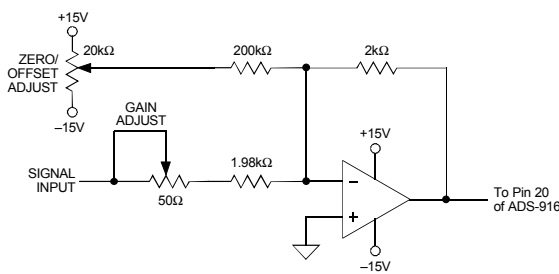

Figure 2. ADS-916 Calibration Circuit
Bypass all power supplies and the REFERENCE OUTPUT (pin 21) to ground with 4.7µF tantalum capacitors in parallel with 0.1µF ceramic capacitors. Locate the bypass capacitors as close to the unit as possible. If the user-installed offset and gain adjusting circuit shown in Figure 2 is used, also locate it as close to the ADS-916 as possible.
can be reduced to zero using the input circuit of Figure 2. When using this circuit, or any similar offset and gain-calibration hardware, make adjustments following warmup. To avoid interaction, always adjust offset before gain.
**CALIBRATION PROCEDURE (Refer to Figures 2 and 3)**
Any offset and/or gain calibration procedures should not be implemented until devices are fully warmed up. To avoid interaction, offset must be adjusted before gain. The ranges of adjustment for the circuit of Figure 2 are guaranteed to compensate for the ADS-916's initial accuracy errors and may not be able to compensate for additional system errors.
All fixed resistors in Figure 2 should be metal-film types, and multiturn potentiometers should have TCR's of 100ppm/°C or less to minimize drift with temperature.